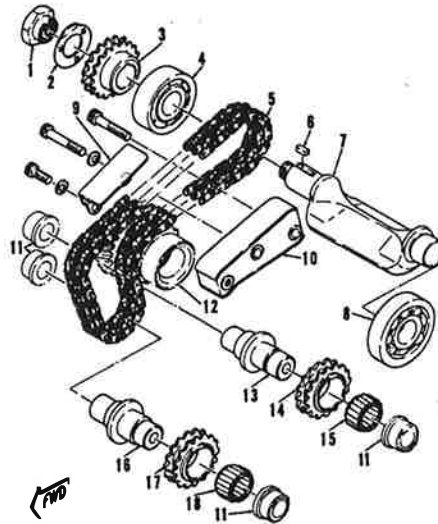

Fig. Y19-20—View of counterweight and drive components used on 500cc models.
To remove counterweight drive chain on SC500 models, remove chain guide (9—Fig. Y19-20). Fold down bent portion of lock washer (2) and remove nut (1) on counterweight shaft (7). Pull idler sprocket shaft (13) and remove sprocket (14). Pull counterweight drive sprocket off shaft and remove drive chain. Pull primary gear from crankshaft.